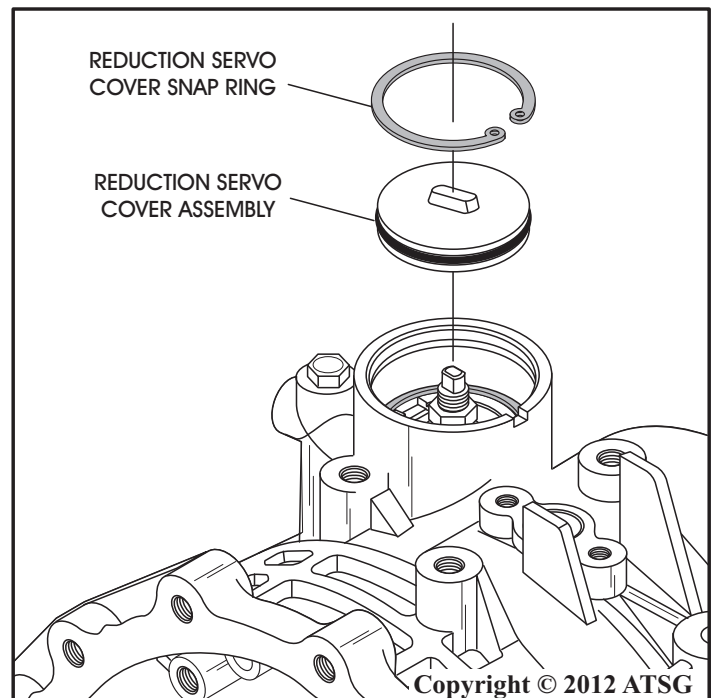

Figure 288
94. Install the pre-assembled reduction servo cover and snap ring, flat side facing down, as shown in Figure 288.